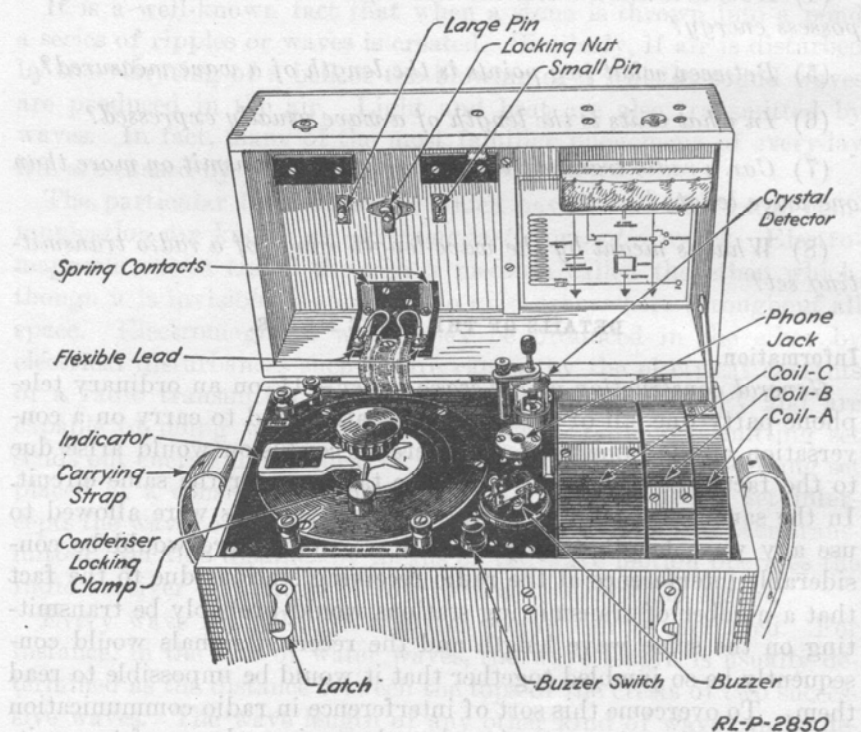

Fig. 20.—The SCR-61 wave meter.
The most important parts of an SCR-61 wave meter are the rotary condenser, inductance coil, buzzer, crystal detector, and the dry cell. See Figs. 20, 21, and 22.
1. Unbuckle the leather carrying strap. Release the two latches on the front of the box and raise the cover. Study Figs. 20, 21, and 22 to learn the names of the important parts of the meter which can
- (9) Why is it important to know the length of an electromagnetic wave?
- (10) What is the purpose of the wave meter?
- (11) How is the wave meter inductance coil constructed?
- (12) What is the approximate size of each of the three coils?
- (13) Which coil (A, B, or C) is the largest? Which is the smallest?
- (14) Why were the two holes in the coil support made different in size?
- (15) How is contact made with the wire on the coils? (See Figs. 20 and 22.)
*The Rotary Condenser.*—A rotary condenser usually consists of a number of stationary or fixed semicircular plates together with a number of movable or rotary semicircular plates. The movable plates rotate in such a way as to slip into the spaces between the stationary plates. A pointer moving over a circular scale indicates the position of the movable set of plates. (See Fig. 20.)